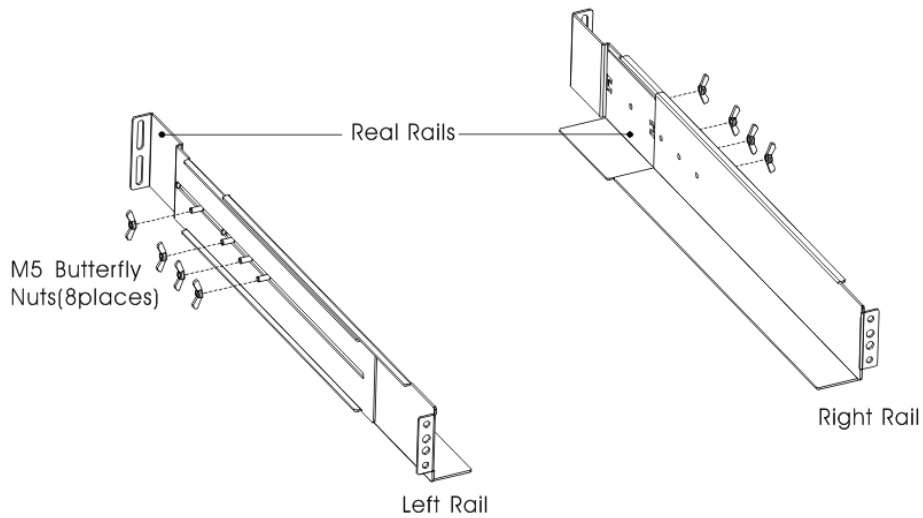

Figure 3 Securing the Rails
1. Assemble the left and right rails to the rear rails as shown in Figure 3. Do not tighten the screws. Adjust each rail size for the depth of your rack.
3. Tighten four M5 Umbrella Nuts in the side of rail assembly (see Figure 3).